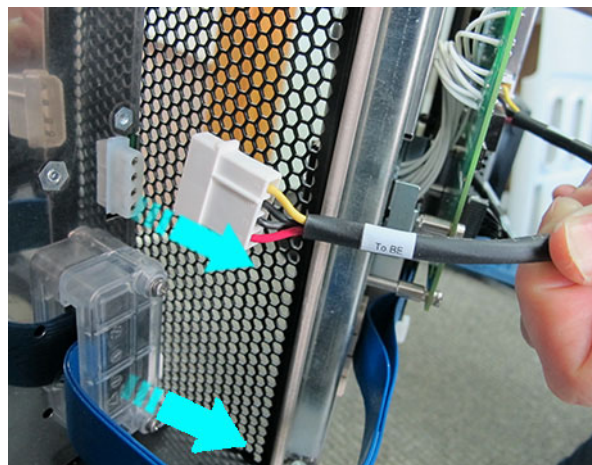

Figure 8-118 Disconnecting BE-to-FEPS Cable from Back End
Refer to Figure 8-118 below.
- 4.) Disconnect the BE-to-FEPS cable from the Back End (also shown in Figure 8-118 below).
- 4) Reconnect the BE-to-FEPS cable to the BEP - refer to Figure 8-118.